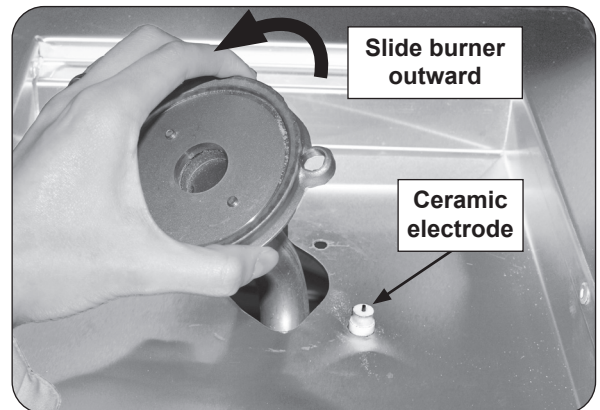

Fig. 34-2 Remove burner
5. Carefully lift the burner up and out, clearing the ceramic electrode (see Fig. 34-2), and pulling the burner tube away from the orifice located on the left side of the unit.